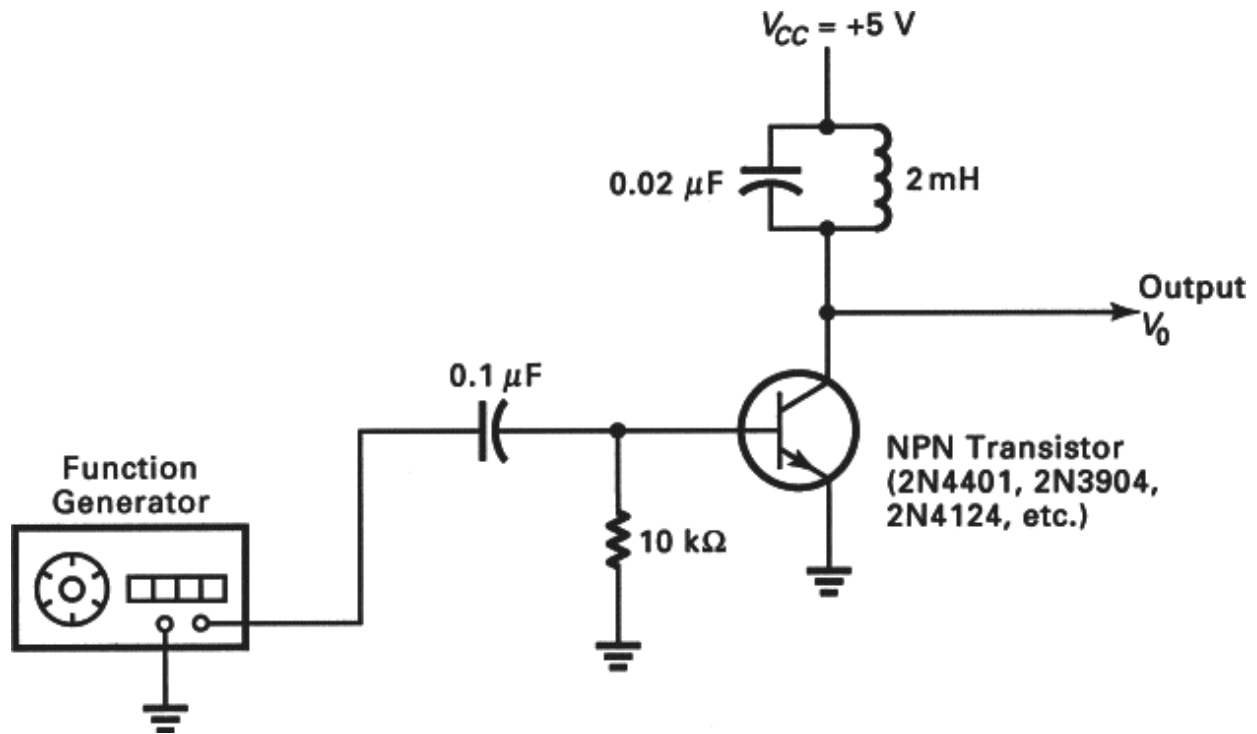

Fig. 8-1 Class C amplifier.
1. Construct the class C amplifier circuit shown in Fig. 8-1. Initially connect the function generator but be sure that the input amplitude is reduced to zero initially.
2. Observe the tuned circuit in Fig. 8-1 and calculate the resonant frequency by using the values given. Record the frequency.
1. The type of bias used on the class C amplifier shown in Fig. 8-1 is known as _____ .